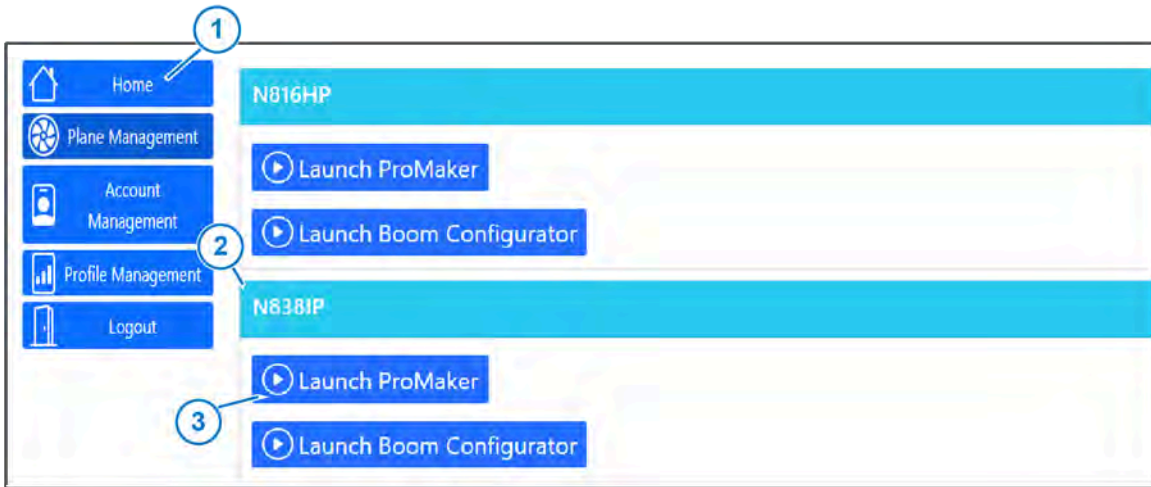

Figure 8: Home Screen
1. Log into your ProMaker account at <https://promaker.capstanair.com> or select **Home** (Figure 8, Item 1) from the sidebar.
2. In the box (Figure 8, Item 2) below the desired plane, select **Launch ProMaker** (Figure 8, Item 3).